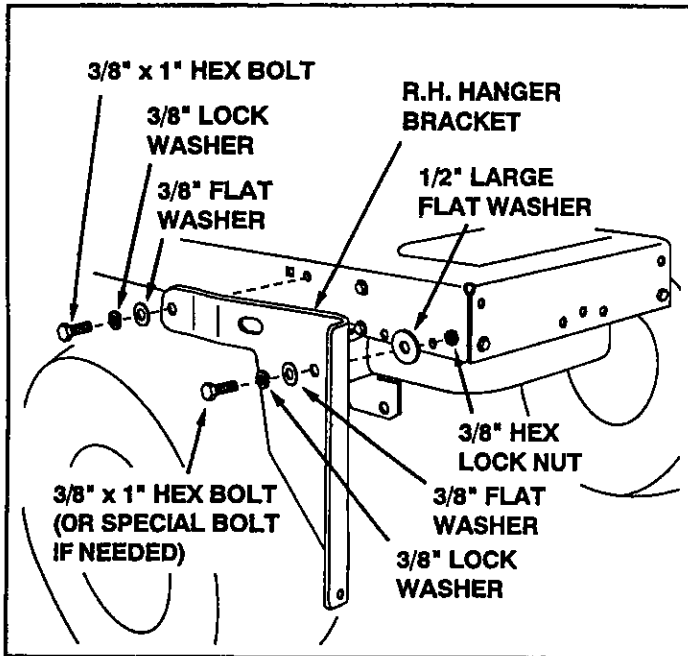

FIGURE 4
- Attach the R.H. hanger bracket to the front hole on the side of the tractor frame using a new 3/8" x 1" hex bolt, 3/8" lock washer, 3/8" flat washer, 1/2" large flat washer and 3/8" hex lock nut. Place the large 1/2" flat washer between the bracket and the tractor frame. Attach the rear of the bracket using a new 3/8" x 1" hex bolt, 3/8" lock washer and 3/8" flat washer. **Tighten.** See figure 4. Repeat for other side.